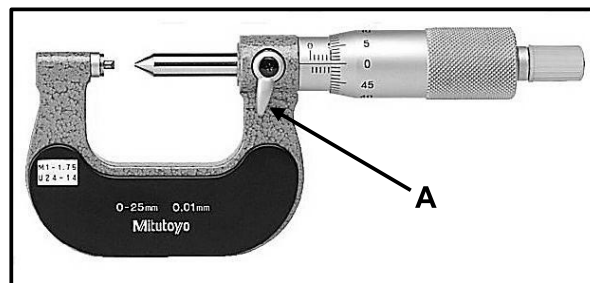

FIGURE 4.6
- (1)
4.6 Identify part **A** of the screw thread micrometer shown in FIGURE 4.6 below.